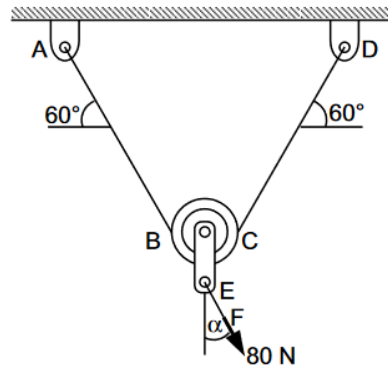

Figure 4
- 4) Figure 4 shows axle pulley system where the coefficient of friction between cable $ABCD$ and the pulley varies between 0 and 0.60. Write a MATLAB program to determine, (a) the values of α for the system to remain in equilibrium (b) the reactions at A and D (c) Plot α as a function of the coefficient of friction.